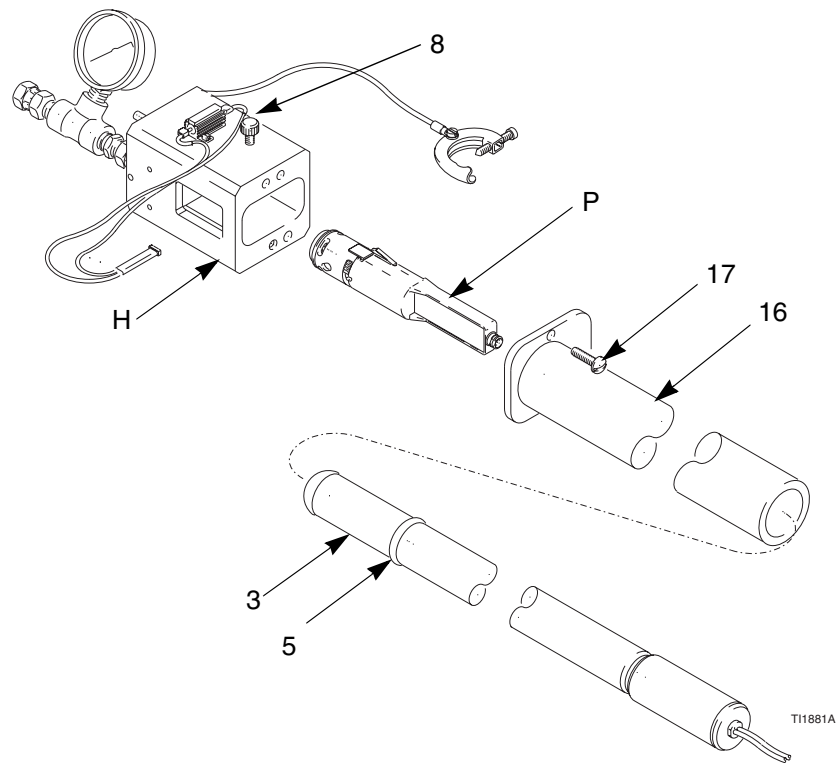

Fig. 5. Install Power Supply in Fixture
- Never test the power supply without the shroud (16) installed.
3. Install the power supply cartridge (P) into the fixture (H), orientated as shown in Fig. 5. Push in until the alternator bottoms out in the cavity.
4. Secure the shroud (16) to the fixture (H) with the screw (17).
5. Lubricate the probe o-ring (5) to ease insertion into the shroud.
6. Insert the probe (3) into the shroud (16) and touch its tip to the end of the power supply.